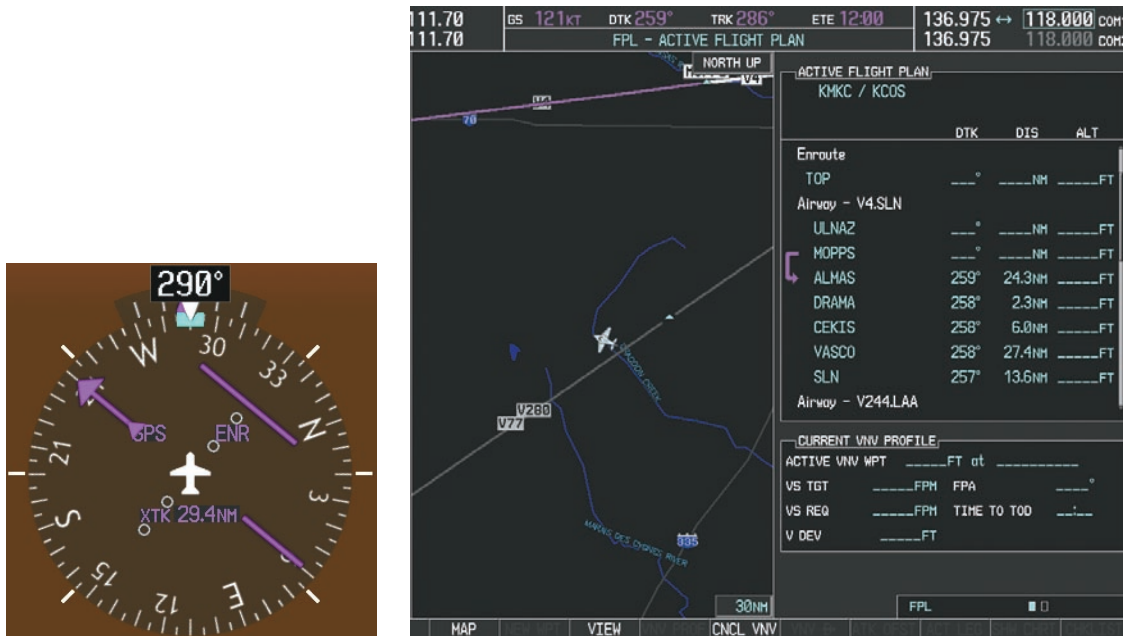

Figure 5-113 V4 Now Active Leg
- d) Verify the displayed leg is the desired leg and press the **ENT** Key. Note in Figure 5-113, the magenta arrow in the flight plan window and magenta line on the map indicating V4 is now the active flight plan leg. Note the phase of flight remained in Terminal (TERM) mode up to this point because a departure leg was active. Since a leg after the departure is now active, the current CDI flight phase is ENR (Enroute) and CDI scaling has changed to 2.0 nm.